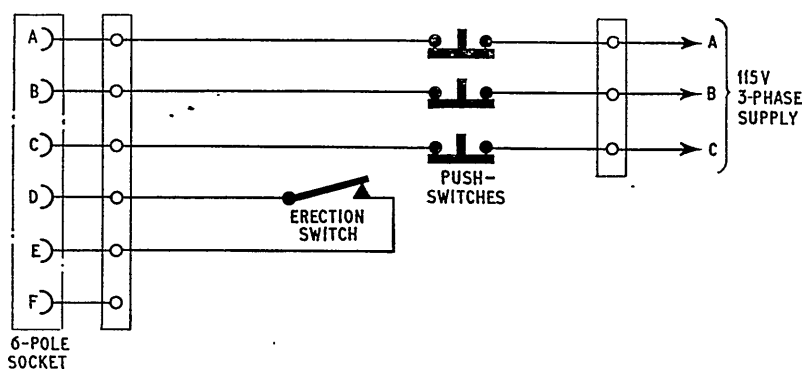

Fig. 1. Test circuit
- (3) Tester, insulation resistance, Type C (Ref. No. 5G/152).
- (4) Test adapter, wired as in fig. 1.
- (5) Pitch and roll deflection scale (Ref. No. 6C/2043) (R.A.F. only) or Locally manufactured scale.